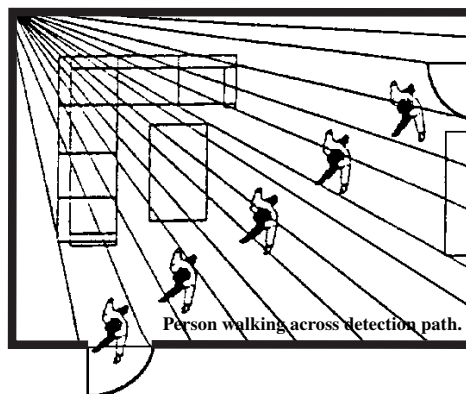

Figure 1. Overhead (Bird's Eye View) Detection Path
- Position the sensor to protect an area where intruders are most likely to walk *across* the detection pattern (see Figure 1).